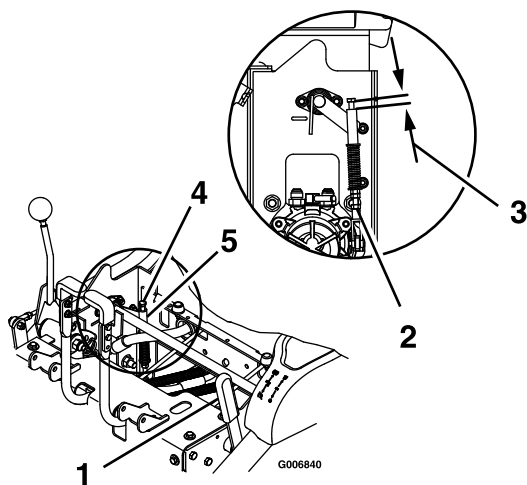

Figure 14
2. A gap must exist between the bottom of the brake bolt head and the top surface of the brake swivel as shown in Figure 14. If a gap does not exist, adjust the linkage to a maximum gap of 1/2 inch $\pm 1/8$ inch (1.3 cm ± 0.33 cm) as shown.